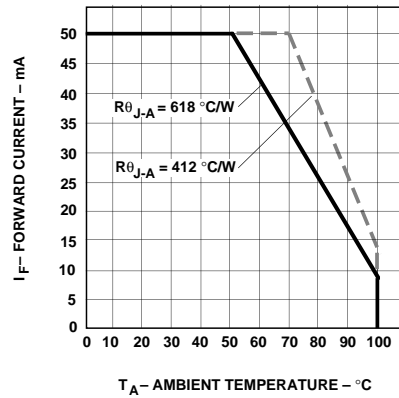

Figure 4. Maximum Forward Current vs. Ambient Temperature. Derating Based on T_j Max = 110°C.
- Derate linearly as shown in Figure 4.